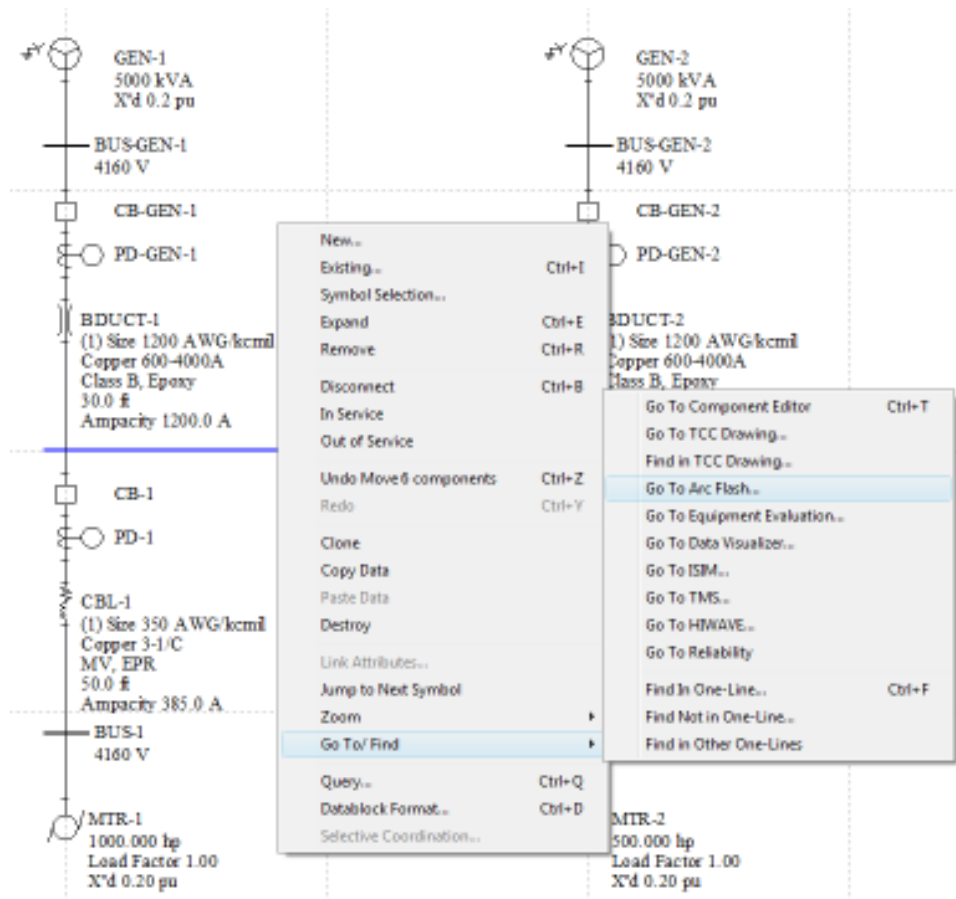

Figure 11
- Select BUS-SWG from the one-line drawing. Right-click and choose Go To/Find > Go To Arc Flash to analyze the study results for the bus which is within the protection zone of summation relays (Figure 11).